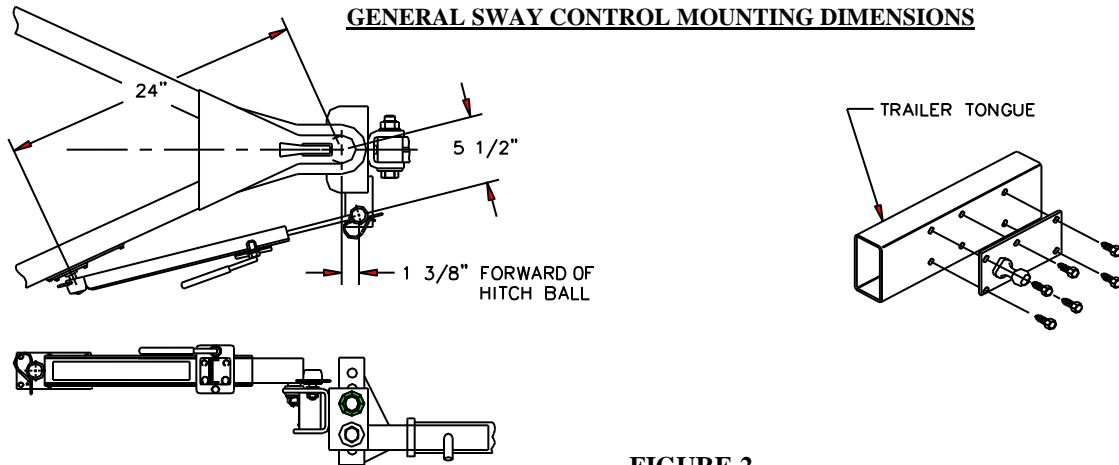

FIGURE 2.
- Mount sway control ball (1a) using nut (1b) and lock washer (1c) to hitch as shown in Figure 2 and torque to 100 lb.-ft. If necessary notch and weld ball mounting bar (4) (sold separately) into position shown.
- Measure and mark a point on the trailer tongue 24" from the center of the hitch ball as shown in Figure 2.
- Align the center of the ball of the ball/plate assembly (3) with the mark on the trailer tongue and center punch four hole locations. Drill four holes using an 1 1/32 (.343) drill bit for 1/8" (.125) or thicker trailer tongue material, or a 9/32" (.281) drill bit for thinner material.
- Position the ball/plate assembly (3) over the drilled holes and drive four of the self tapping screws (2a) through the plate and into the trailer tongue. Drill the two remaining holes and install the screws.